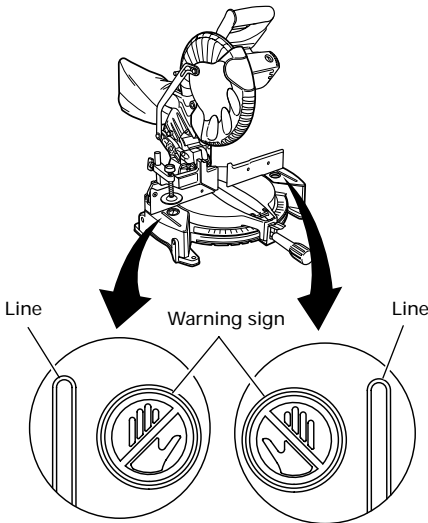

Fig. 5
- Never place your limbs inside of the line next to warning sign while the tool is being operated. This may cause hazardous conditions (see Fig. 5).